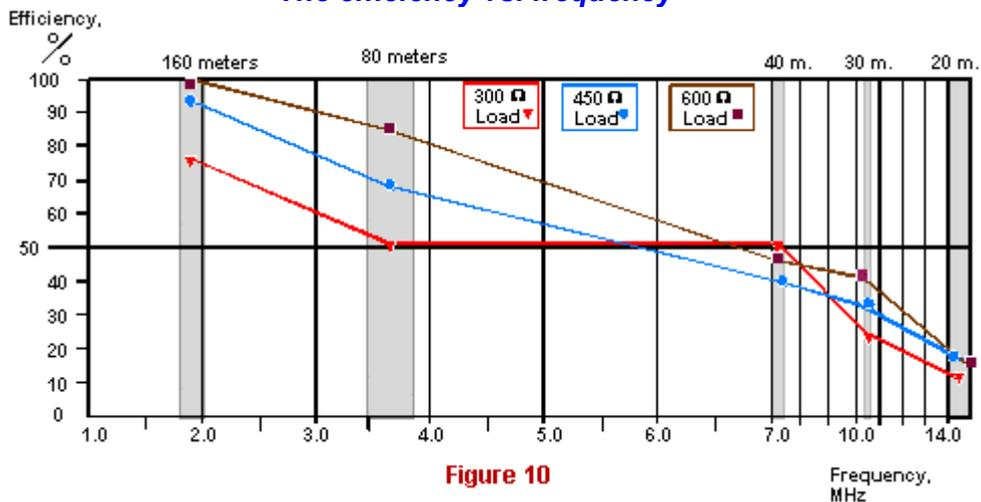

Figure 10
- The efficiency vs. frequency (**Fig. 10**).